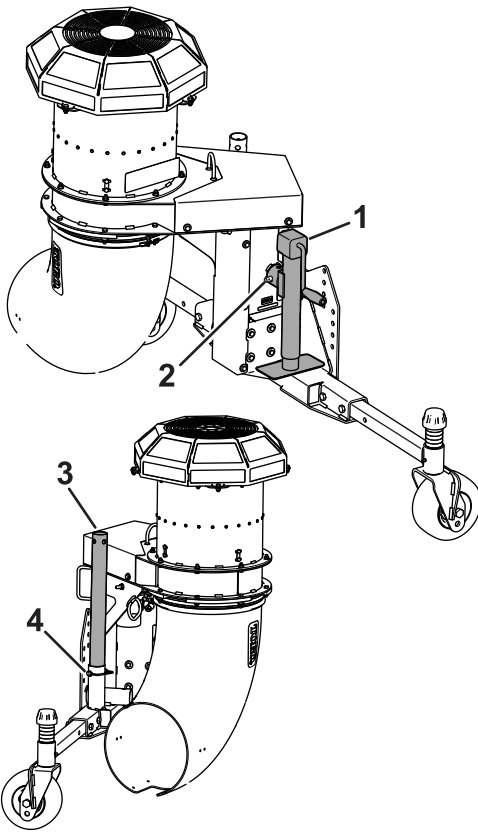

Figure 6
7. Remove the snapper pin securing the jack-stand tube to the storage tube (Figure 6). Remove the jack assembly from the storage position.